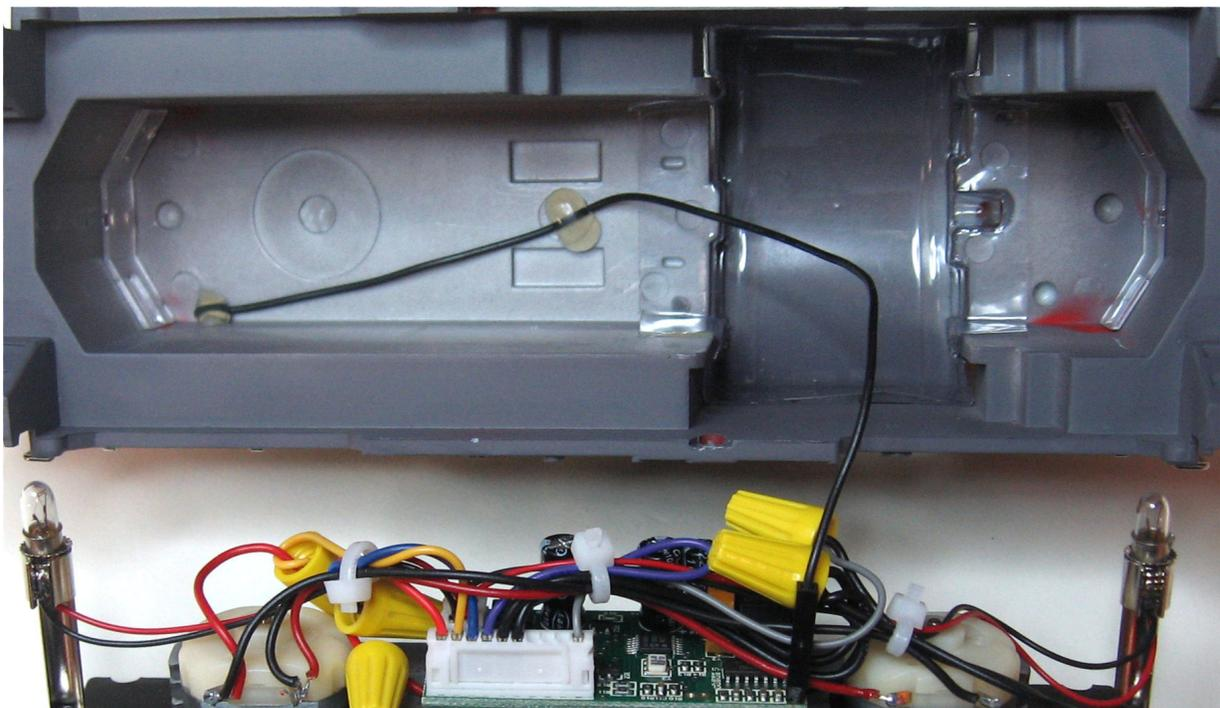

Figure 8 – Ready for shell installation
3. Refer to Figure 8 and connect the antenna wire to the Mini Commander 2 circuit board.